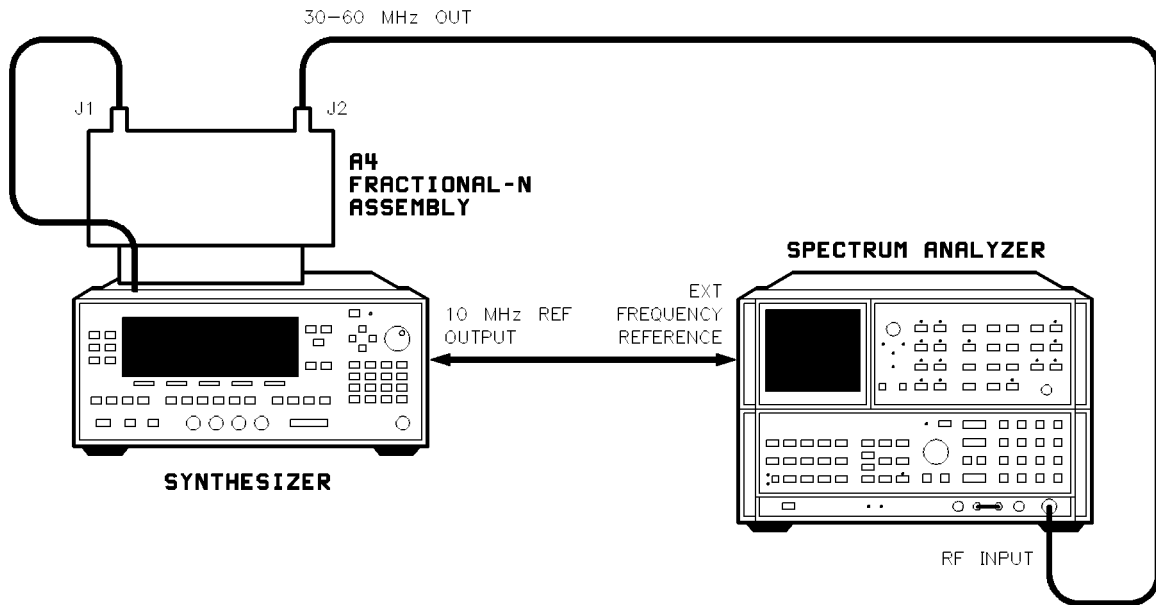

Figure 12-5. Fractional-N Reference and API Spur Adjustment Setup
1. With the A4 assembly on an analog extender board, connect the equipment as shown in Figure 12-5. Preset the instruments, and let them warm up for at least one hour.